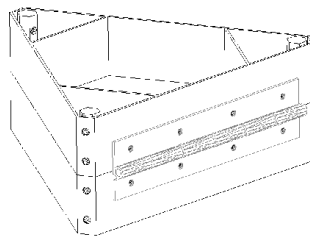

Figure 5 – Hinge Mounted on Hinge Bracket
7. Attach the two hinge brackets (item 10) with the hinge assembly (item 9) using $5/16'' \times 1''$ hardware (items 19, 21, 22). Ensure there is even spacing between the bottom and middle tower sections where the 3" hex spacer bars meet. See Figure 5.